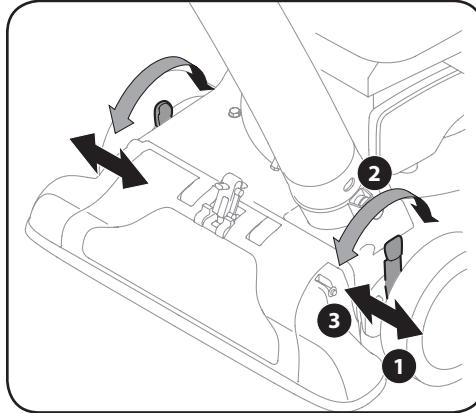

Figure 3-7
1. Depress nozzle height adjustment lever towards wheel. See Figure 3-7.
3. Release lever towards deck. See Figure 3-7.